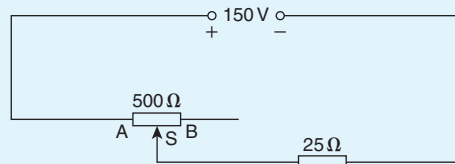

Figure 5.45
- For the circuit shown in Fig. 5.45, calculate the current flowing in the $25\ \Omega$ load and the voltage drop across the load when (a) AS is half of AB, and (b) point S coincides with point B. Is this a potentiometer or a rheostat?